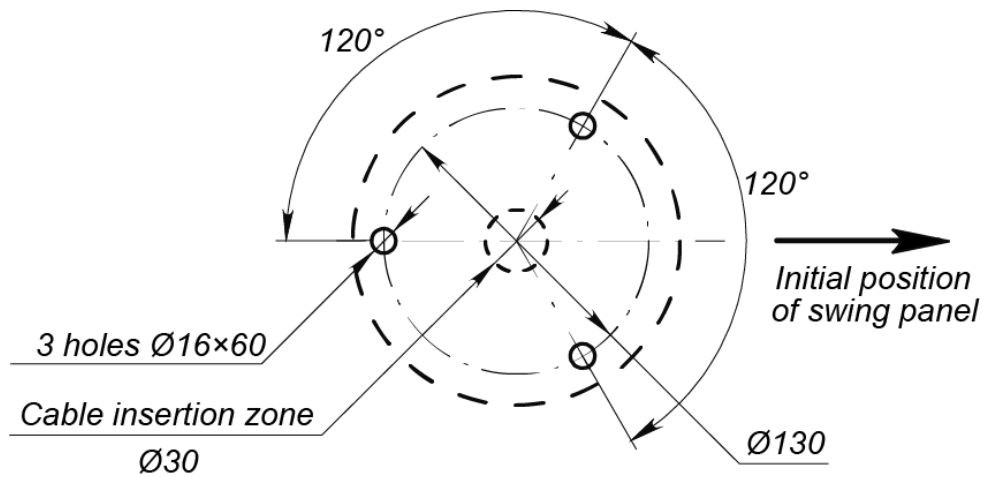
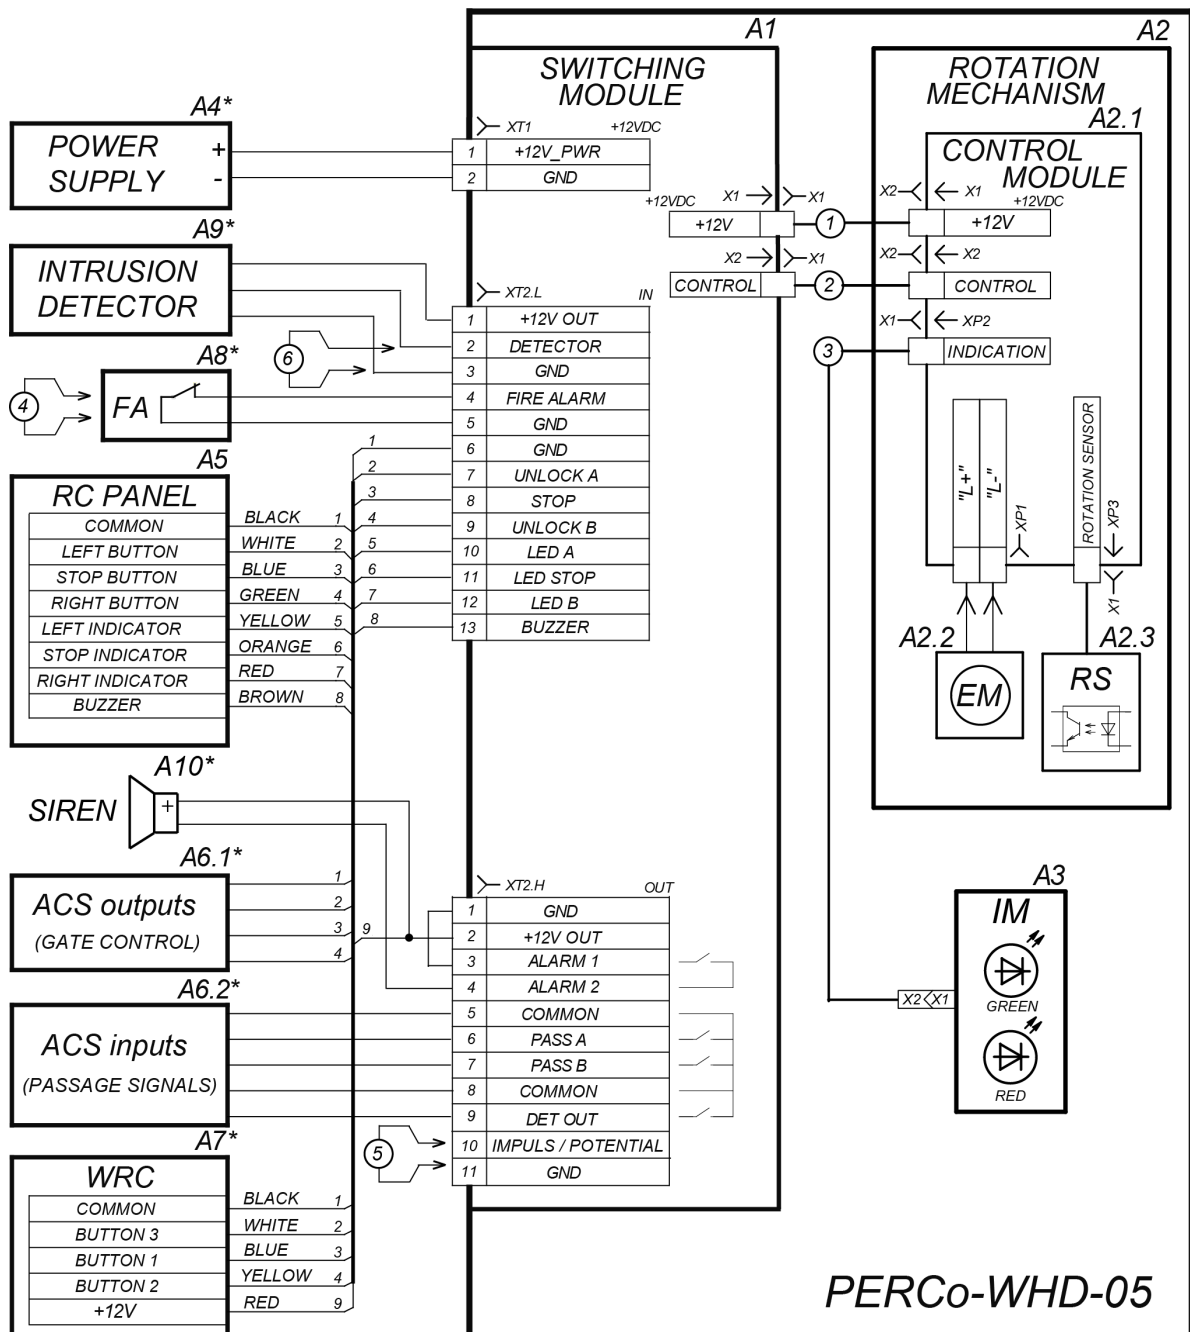

Figure 9. Mounting hole pattern
Figure 10. Electrical connection layout for switching module board (legend - Table 3)
4. Mark and prepare the mounting holes in the floor for anchors to install the gate post as per Fig. 9.
7. Remove bracket (6) with switching module (7) from the gate post through the hole in the basement.
8. Connect cable of RC panel (ACS/ WRC device) and power supply cable to switching module according to the scheme on Fig. 10.
9. Install bracket (6) with switching module (7) back on its place.
11. Install gate post (1) on anchor shells and fix it with anchor bolts; put it vertically by using a lever.
Table 3. Legend to Fig. 10